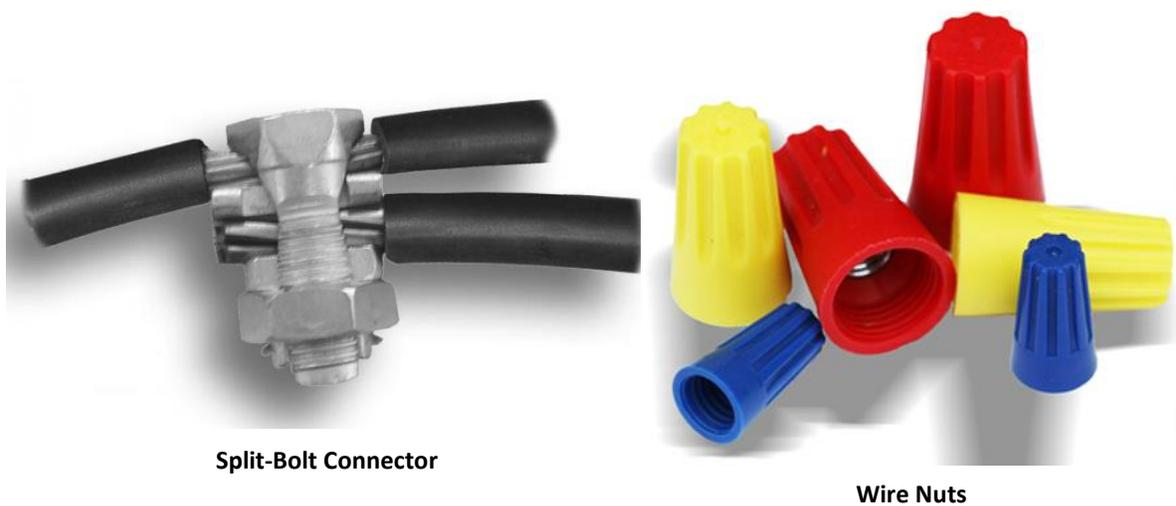

Figure 7.9: Solderless Connectors
- 7-69 Wires are often connected with solderless connectors instead of by splicing. These connectors make the job of joining wires quite simple. Large wires that are difficult to twist are joined with *split-bolt* connectors, as shown in Figure 7.9. Smaller wires that are easy to twist together can be joined with *wire nuts*.